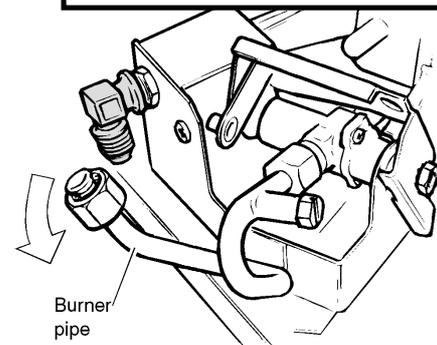

Fig. 50 Burner injector removal
13.12 To remove the main burner injector (see figure 50)